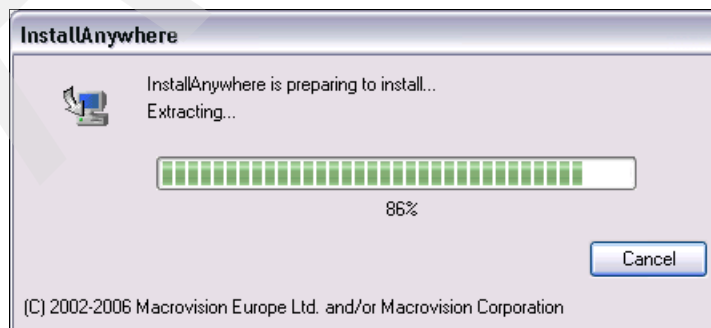

Figure 7-1 SM InstallAnywhere
2. Start the DS Storage Manager client install wizard by running the SMIA-WS-xx.xx.xx.xx.exe executable to invoke the install wizard, as shown in Figure 7-1.